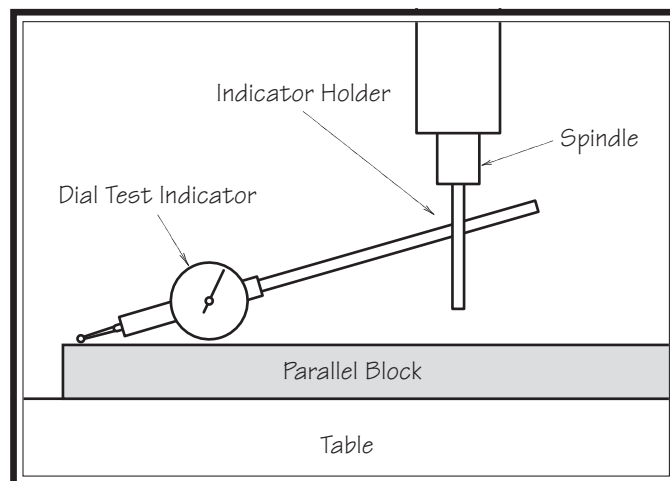

Figure 26. Dial test indicator mounted.
4. Install the indicator holder into the spindle or onto the quill, then mount the indicator onto it so that the point is as parallel to the block as possible (see the illustration in **Figure 26** for an example).